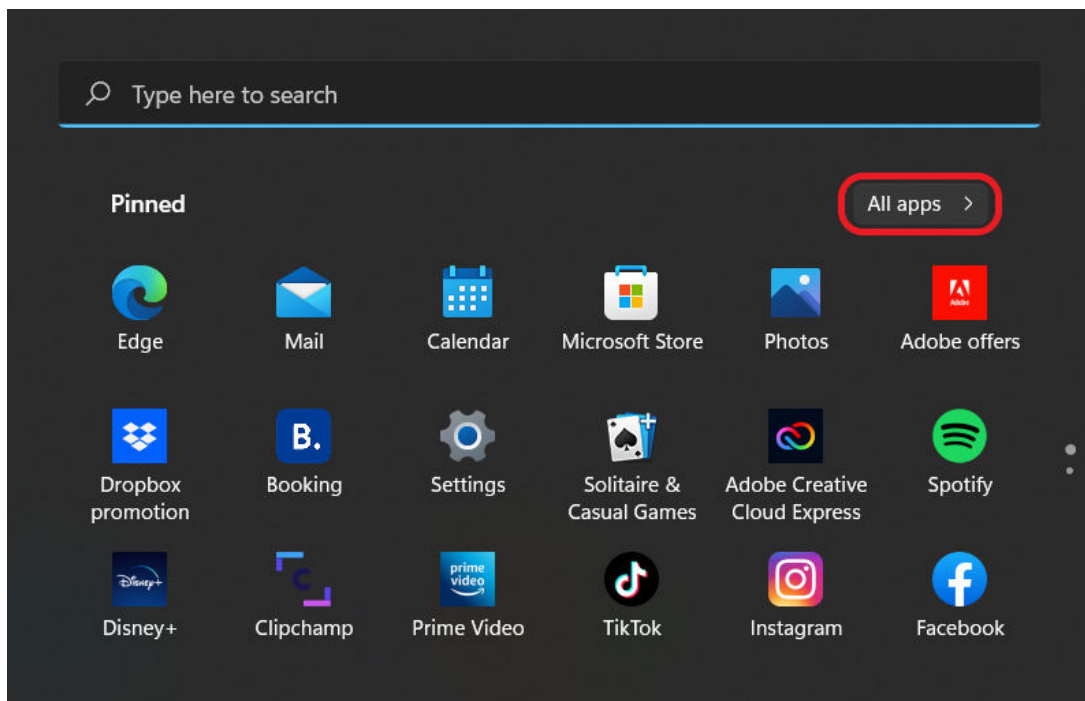

Figure 13: Windows® 11 – 'Start Menu' main window
2. Next, click on the 'All Apps' button at the top right of the 'Start Menu' – highlighted in Figure 13 below – to access the alphabetical list of installed applications.